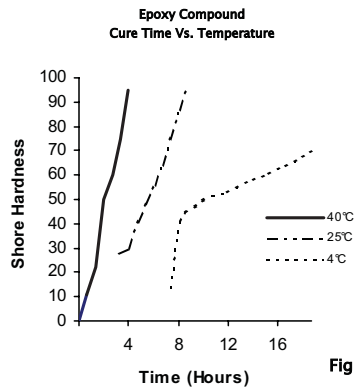

Fig. 7
C. Spread the conductors out for the compound packing. Pack the compound between the conductors as shown. See Notes overleaf and Fig. 7 for compound preparation.
**E.** Pass the conductors through the body (5), which may have been previously fitted into the equipment. Ensure that compound does not cover end of pot (4)
**F.** Locate and hand tighten backnut (1) to the body.
**G.** Allow the compound to cure. (See fig. 7 for curing times).